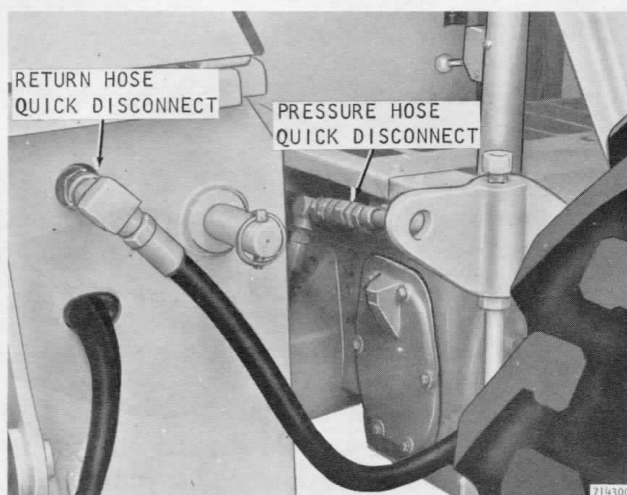

Figure 43 - Quick Disconnect Couplings
7. Slowly and carefully ~~fully drive the tractor~~ forward about one foot. Stop the engine and disconnect the pressure and return hoses at the quick disconnect couplings, Figure 43.
2. Stop the engine and connect the hydraulic lines, Figure 43. Be sure the couplings are fully engaged.